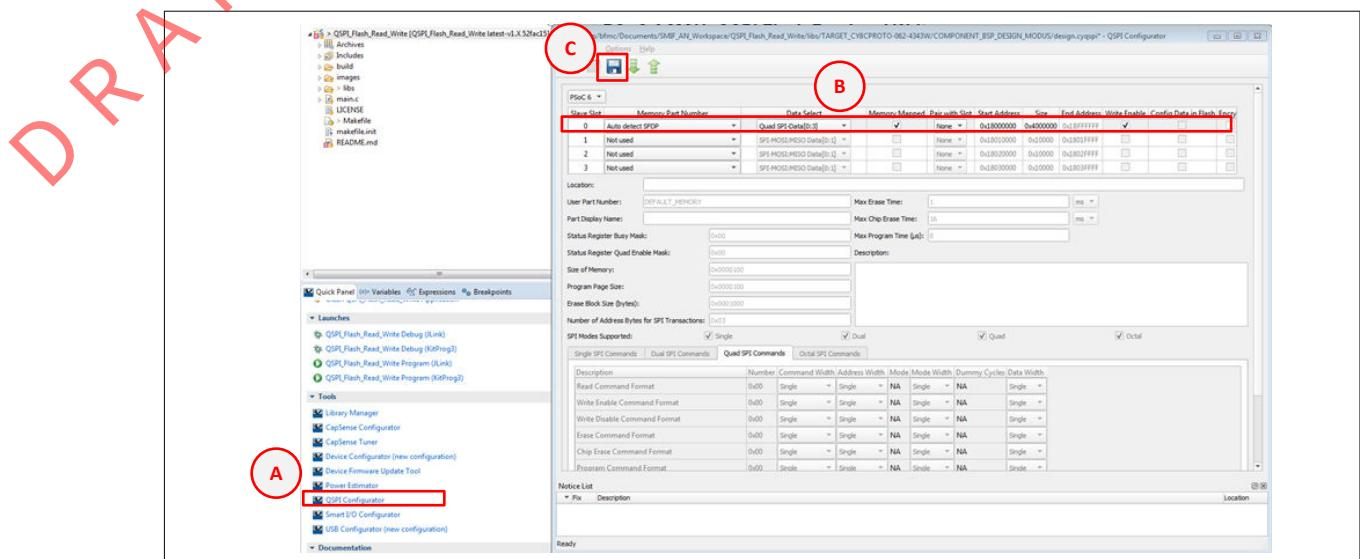

Figure 172 Steps to use the QSPI Configurator
2. Generate the QSPI configuration structures using the QSPI Configurator. Figure 172 shows an example configuration suitable for use with any PSoC™ 6 MCU kit that has an external flash device.